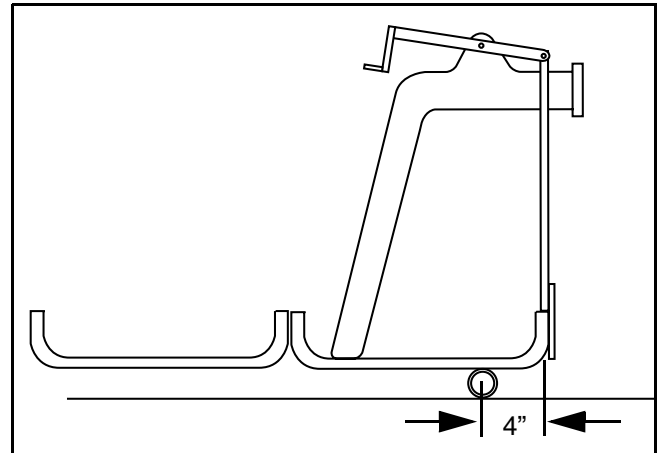

Figure 3 - 10 Pull Point Speed Test
- 1) Place the paver on a flat hard surface. Place a 2" (O.D.) or larger pipe under each end of the main screed to serve as a pivot (Figure 3 - 10). Lay pipe parallel to leading edge of the main screed and exactly 4" from leading edge.